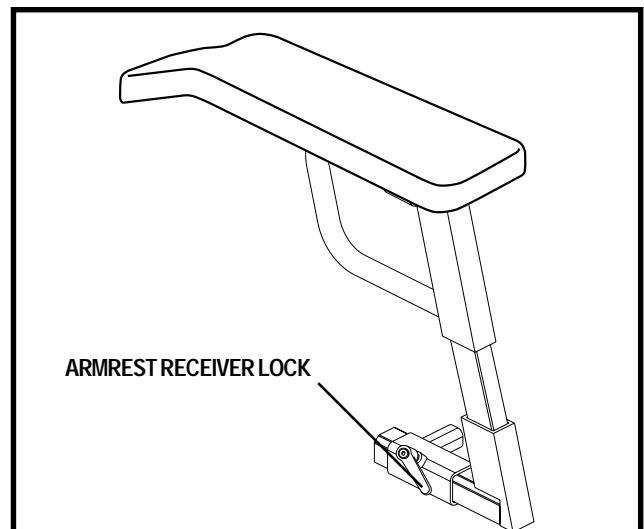

Figure 11. Armrest Position Adjustment
1. Turn the armrest receiver lock anticlockwise to loosen. See figure 11.